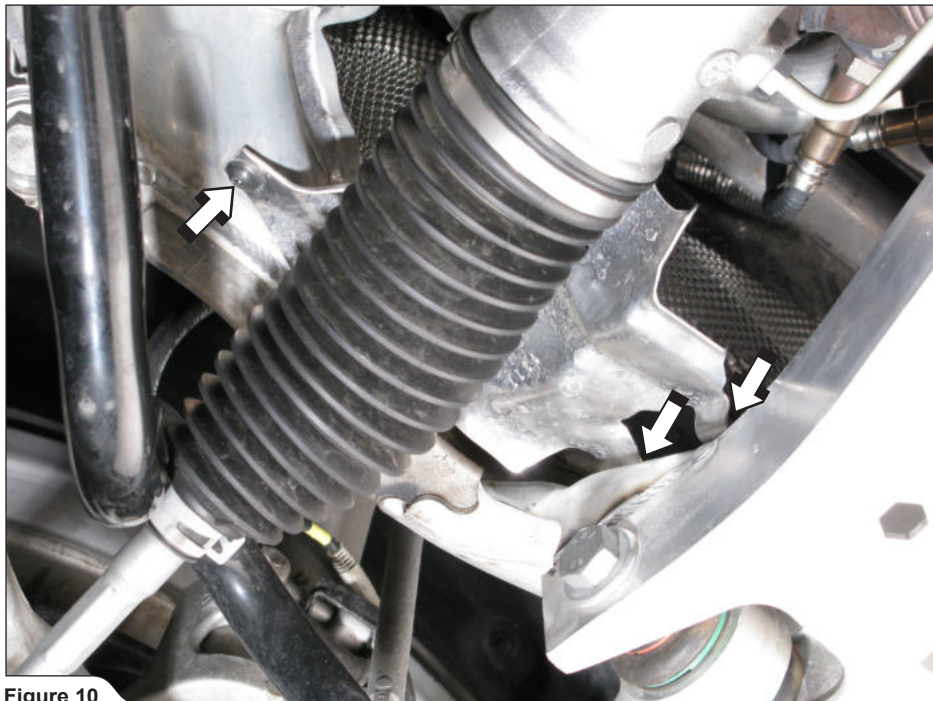

Figure 10
9. For optional Down Pipes: unscrew the three marked bolts and remove the power steering heat shield (Figure 10).